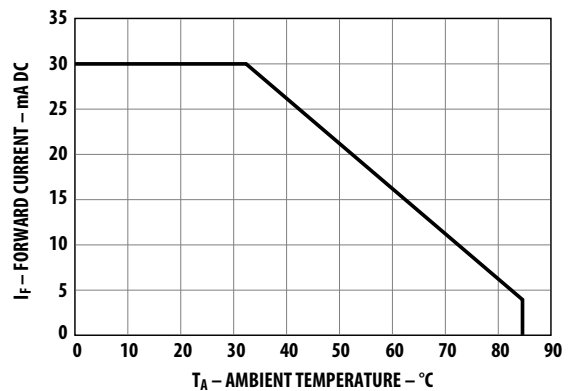

Figure 4. Maximum forward current vs. ambient temperature based on $T_j \text{ max.} = 115^\circ\text{C}$
2. Derate linearly as shown in Figure 4.